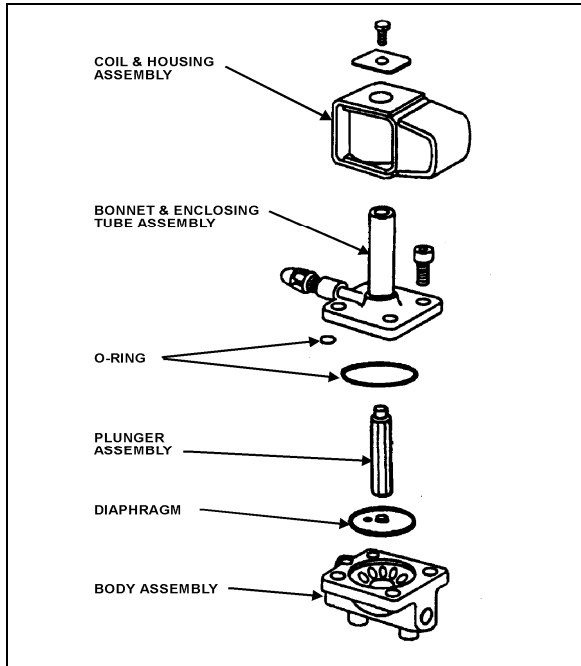

FIGURE 32: REFRIGERANT SOLENOID VALVE 22044
3. Remove the four socket head screws which hold the body and bonnet together (Fig. 32).